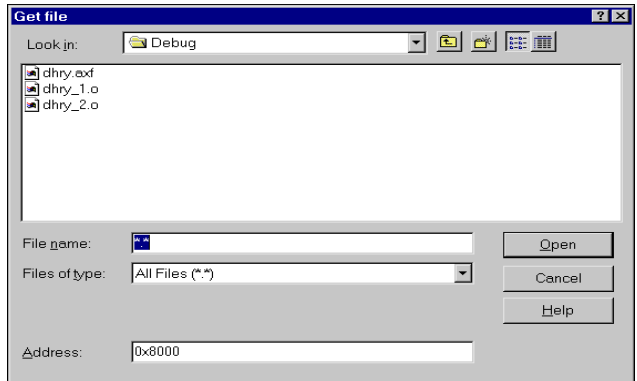

Figure 3-11 Get File dialog
1. Select **Get File** from the **File** menu to display the Get file dialog (Figure 3-11).